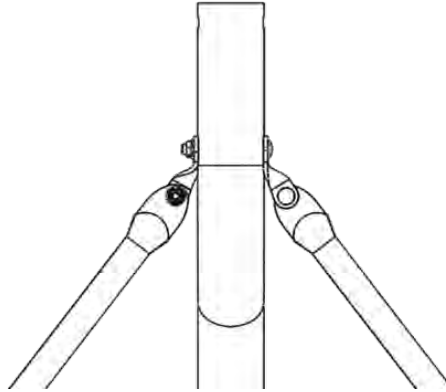

Figure 91: Attach Mast and Adjustment Struts
1. Fix the mast ① to the chosen surface using two anchor screws ⑤.
2. Attach each adjustment strut ③ and ④ to the mast ①, securing it in place with the roundhead bolt and flange nut ②. Ensure the orientation of each strut matches the image below when viewed from the outer bent portion of the mast. See figure 91.